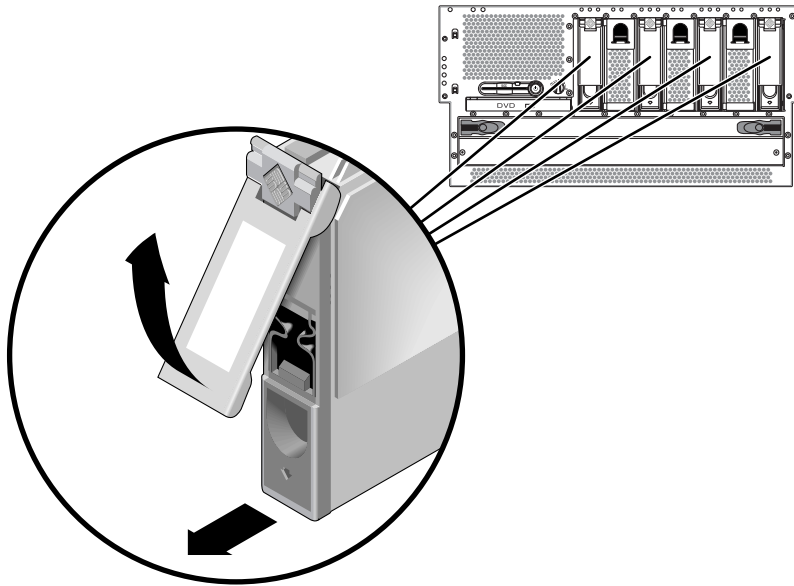

FIGURE 3-6 Removing a Hard Drive
10. Pinch the hard drive latch up to release the hard drive handle (FIGURE 3-6).
11. Pull the handle away from the hard drive until you feel the hard drive connector disengage from the SCSI backplane connector (FIGURE 3-6).